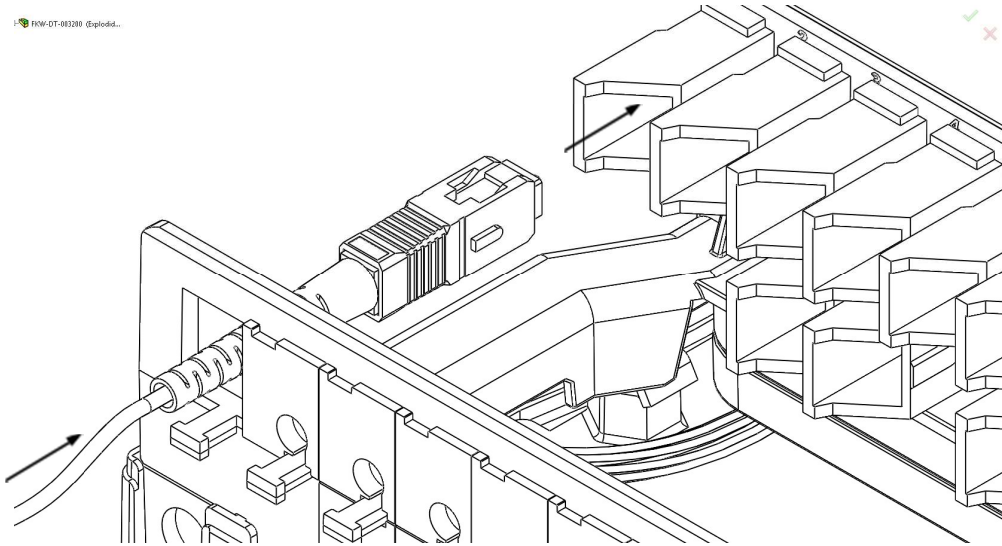

Fig. 28
- 4.6.4. Pass the connector through the face plate (Fig. 28);